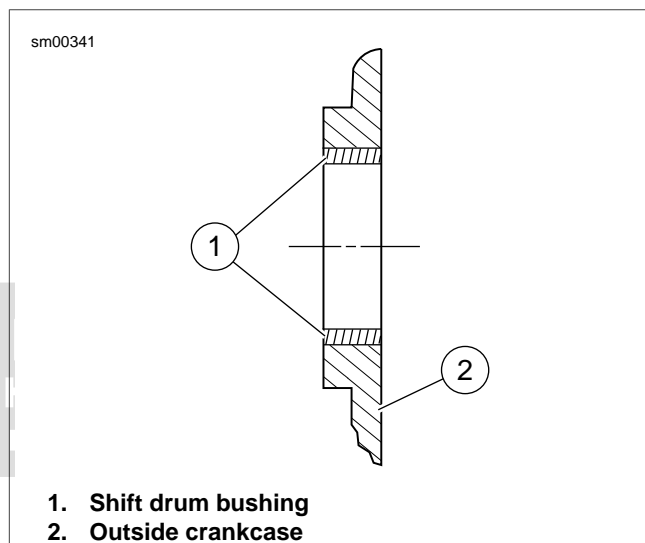

Figure 5-85. Shift Drum Bushing Assembly
2. See Figure 5-85. Lay bushing squarely over bore. Using a pressing tool larger than diameter of bushing, press bushing into bore until bushing contacts shoulder in left crankcase half. If using a pressing tool larger than diameter of bushing, the pressing tool will bottom against crankcase when bushing is flush with top surface.